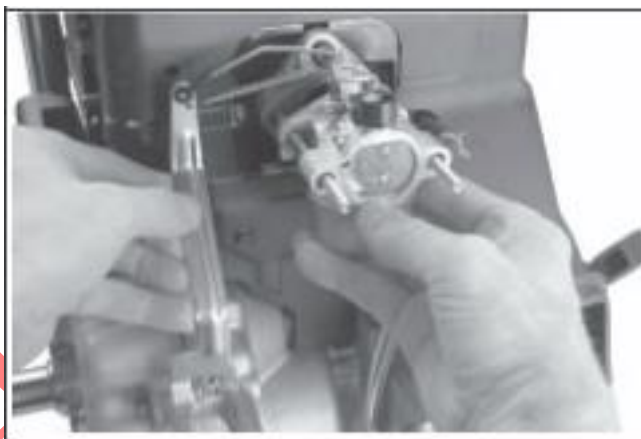

Figure 11-53. Installing Carburetor and External Governor Components.
3. Assemble and connect the pivot bushing, throttle linkage, linkage with spring, and governor lever to the carburetor, if disassembled/disconnected. Install the carburetor with the governor lever and linkage connected onto the intake studs and governor cross shaft. Connect the free end of the rubber fuel line to the inlet fitting of the carburetor as it is being installed. Secure the connection with the remaining hose clamp. See Figure 11-53.